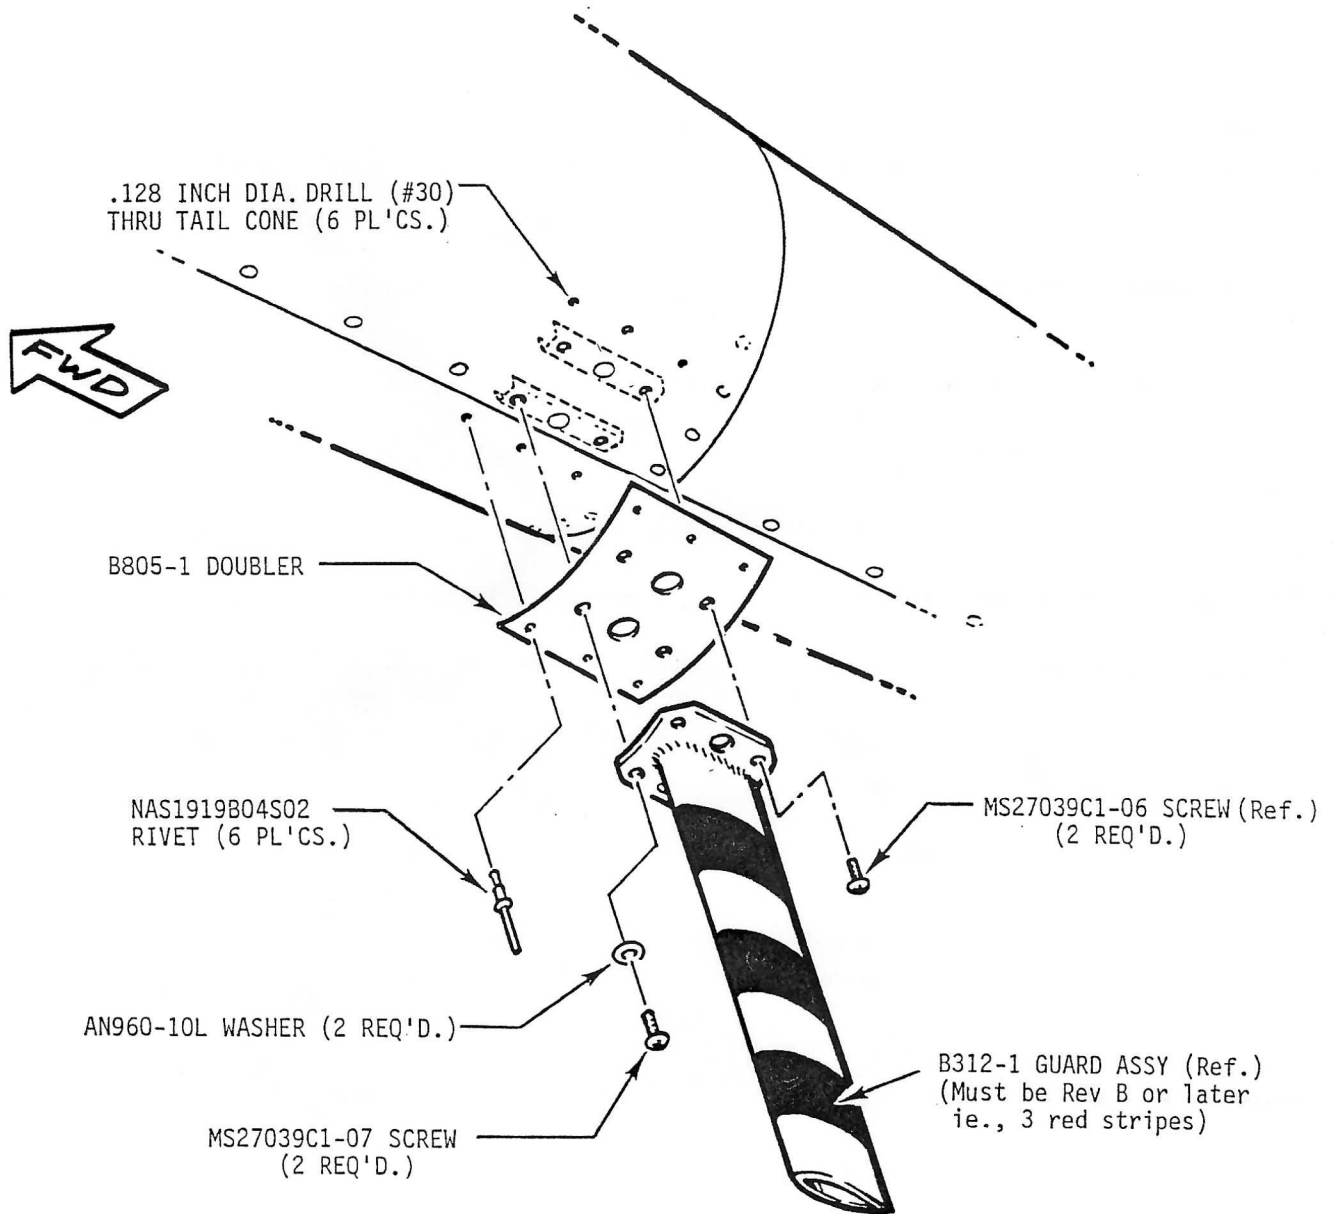

FIGURE 1 B805-1 TAIL CONE DOUBLER INSTALLATION
- Step 3) Install B805-1 Doubler between tailcone and T.R. Guard using the two MS27039C1-07 screws and AN960-10L washers on the tailcone seam and two of the original screws in the other two holes. (ref Fig. 1)